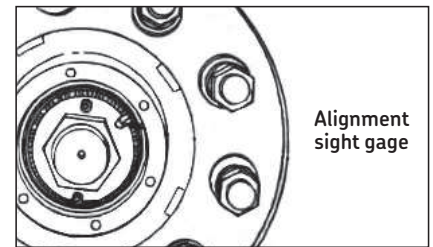

Figure 4
- 7 When end play is verified it is time to arm the wheel bearing lock nut system for field use. Without disturbing the wheel/hub, locate the slot cut in the flange of the wheel nut. This slot is an alignment sight gage for the SHCS (Socket Head Cap Screws) harmonic proof locking system. See Figure 4.